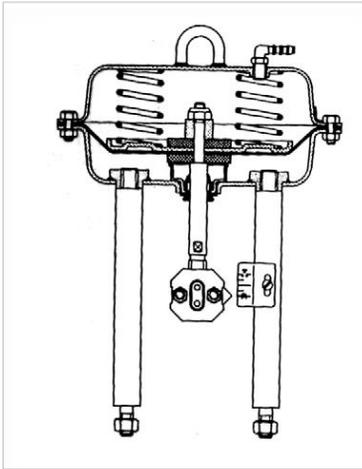

Figure 4: Reverse acting actuator
5. On reverse acting actuator (Figure 4) apply sufficient pressure to the actuator to start point (eg. 0,5 bar).